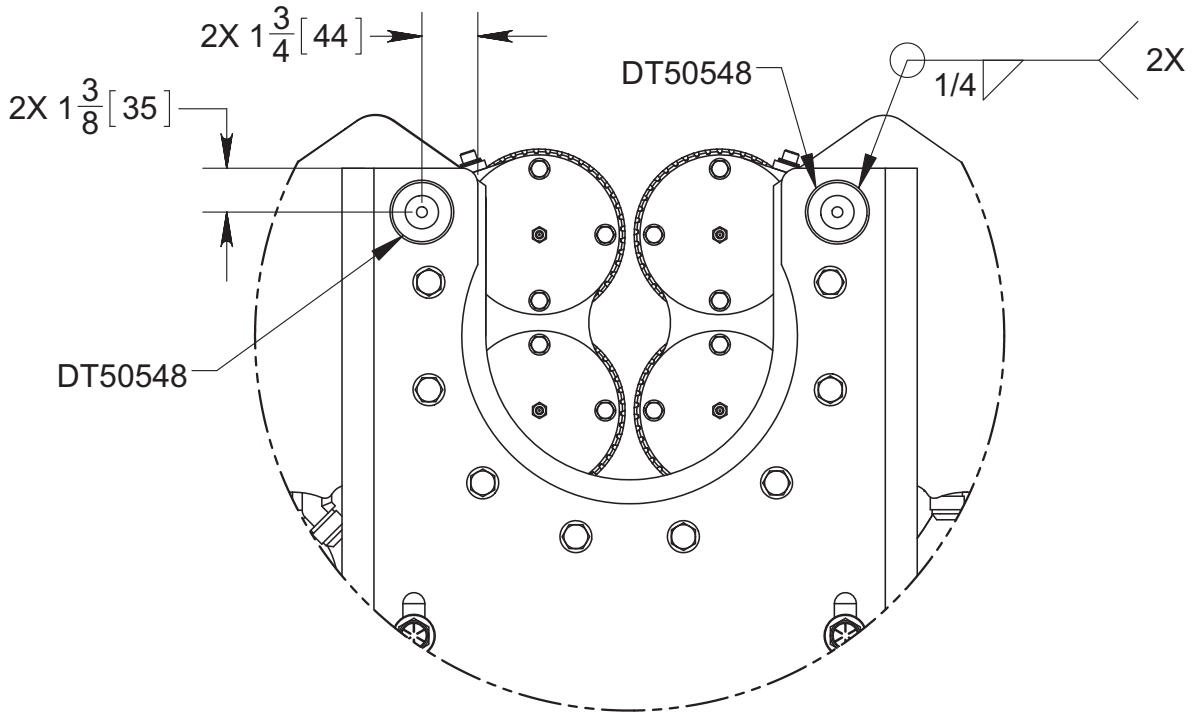
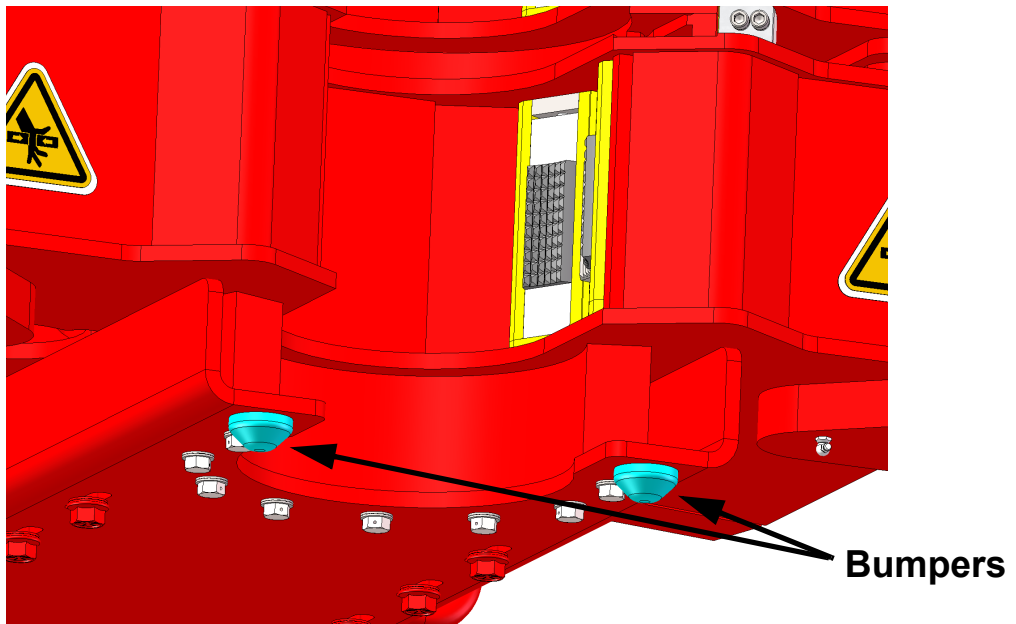

Figure 2: Bumper placement and weld details.
Figure 3: Bumpers installed.
12. Locate and weld the bumpers as indicated in Figure 2 on page 5. Weld per Canrig procedure CRDT-001 or equivalent. Refer to Figure 3 on page 5 for an illustration of installed bumpers. Note: The bumpers are shown in blue for illustration only.